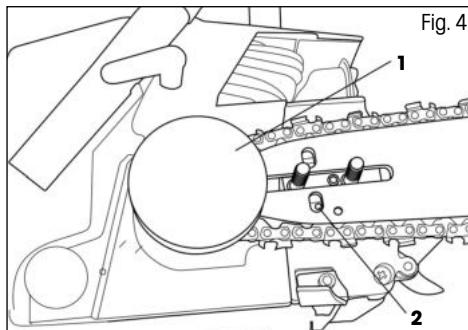
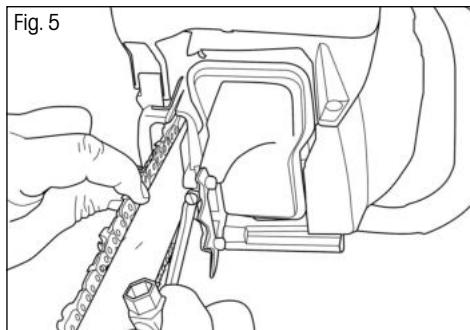

Fig. 4
Fig. 5
⚠ ATTENTION! The chain tensioning pin must fit into the hole in the guide bar (Fig. 4, point 2). The position of this pin can be adjusted using the chain tensioning screw (Fig. 5)
- ❖ Tension the chain using the tensioning screw (Fig. 5) and then tighten the sprocket cover nuts using the included tubular wrench
- ✿ Use a screwdriver to turn the chain tensioning screw (Fig. 5). Turn the tensioning screw until the required tension is achieved (you should lift the chain in the middle of the guide bar in the horizontal position to a height of 3 to 4 mm).